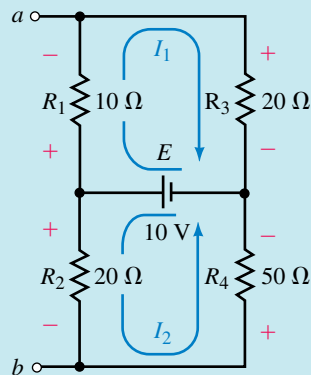

FIGURE 9-23
Step 5: The open-circuit voltage between terminals a and b is found by first indicating the loop currents I_1 and I_2 in the circuit of Figure 9-23.